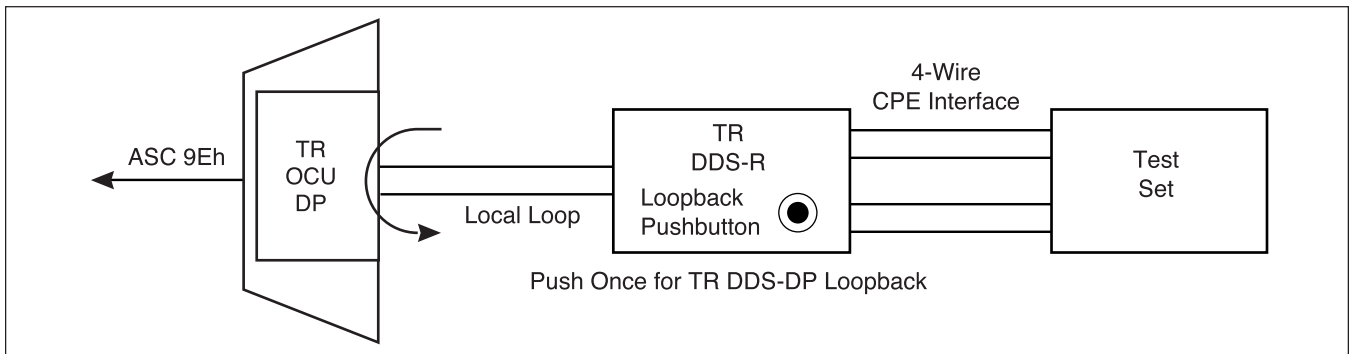
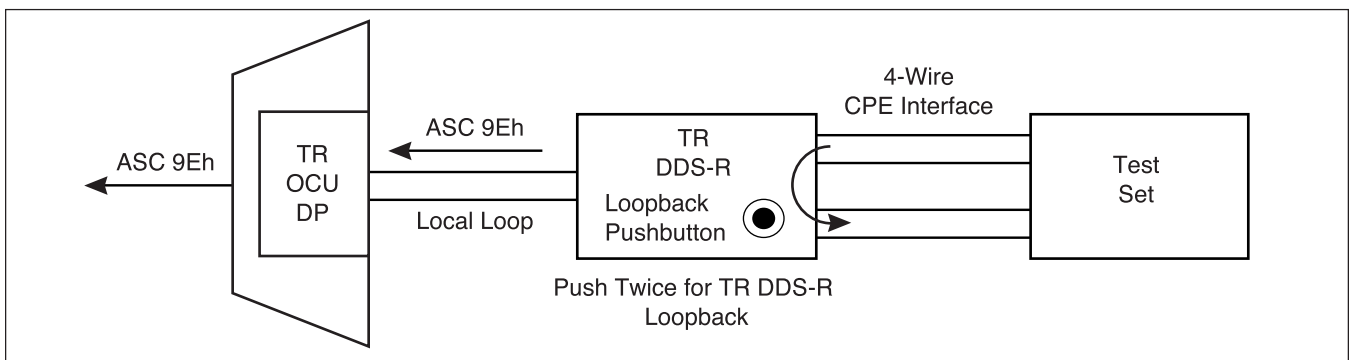

Figure 7. TR DDS-R Remote End Initiated Loopback, Local Loop
Figure 8. TR DDS-R Remote End Initiated Loopback, Customer Loop
- Pressing the Total Reach DDS-R LBK pushbutton once will initiate a loopback at the Total Reach OCU DP toward the customer. This allows data to be sent from the remote end to test the local loop and the Total Reach DDS-R. This loopback is indicated by a flashing CUST LBK LED on the Total Reach DDS-R and a solid CUST LED on the Total Reach OCU DP. See **Figure 7**.
- Pressing the Total Reach DDS-R LBK pushbutton a second time initiates a loopback at the Total Reach DDS-R toward the 4-wire DDS (CPE) interface. A solid CUST LBK LED on the Total Reach DDS-R indicates a loopback at the Total Reach DDS-R toward the customer equipment. See **Figure 8**.
During a remote end initiated loopback the Total Reach system transmits ASC 9Eh toward the network, indicating an out-of-service condition generated by the remote end, as shown in Figure 7 and Figure 8.